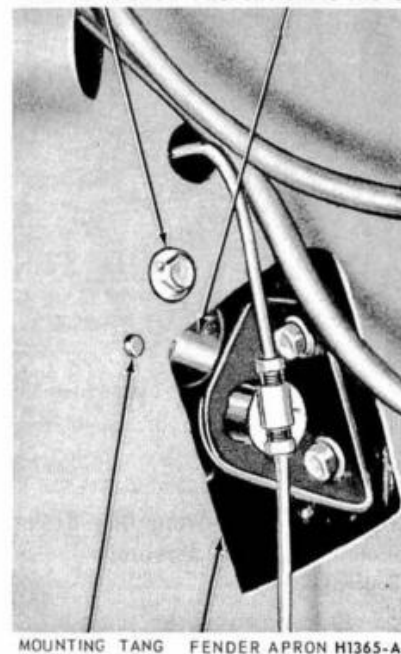

FIG. 21—Removing or Installing Proportioning Valve
3. Working underneath the left fender, remove the bolt that attaches the proportioning valve to the fender apron and remove the valve through the access hole (Fig. 21).
apron so that the mounting tang extends through the hole in the fender apron as shown in Fig. 21. Install the attaching bolt.